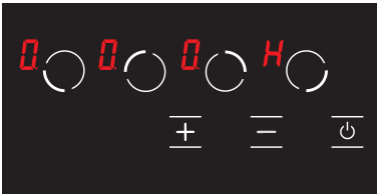

Figure 2
Each cooktop is provided with an installation kit including brackets and screws for fastening the top to fixture panels from 20 to 40 mm thick. Refer to Fig. 2
2. NOTE: Dependent on the thickness of the worktop as shown in Fig. 2 Slide the optional sleeve onto the bracket if fitting to thin work surfaces.
3. Make sure that the brackets are fastened as shown in Fig. 2
3. Adjust the position of the brackets "F" and "R" and tighten "Rear Screw" and "Front Screw" to lock the cooktop firmly in position (Fig. 2).
If the temperature of the glass over the hobs is above 60°C,  and  icons are displayed on the display of the relevant successively. ( = 0.5 seconds,  = 0.5 seconds) (see Fig. 2)